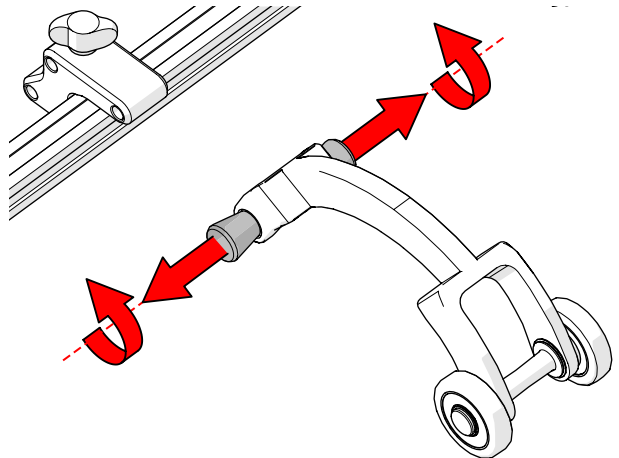

Fig. 52 - Pull pins and twist
1. Pull the pins and twist a quarter turn latching the pins in a retracted state (*Fig. 52*).